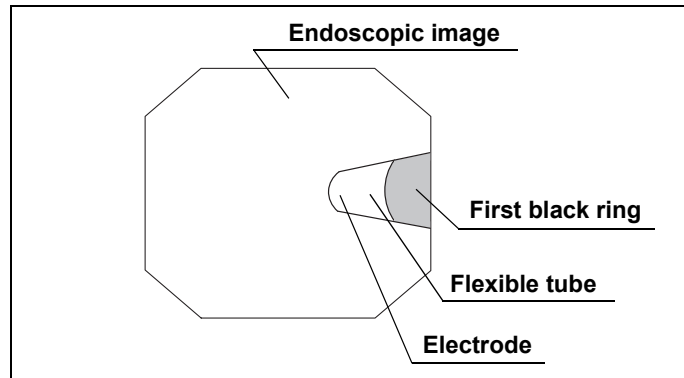

Figure 4.9
- Make sure that the distal end of the APC probe always lies more than 10 mm from the distal end of the endoscope (see Figure 4.9). The protrusion by 10 mm or more can be identified when the first black ring on the APC probe's distal end is visible in the endoscopic image. Otherwise, the treated region cannot be irradiated correctly and the endoscope may be damaged. Using a damaged endoscope may cause patient injury.